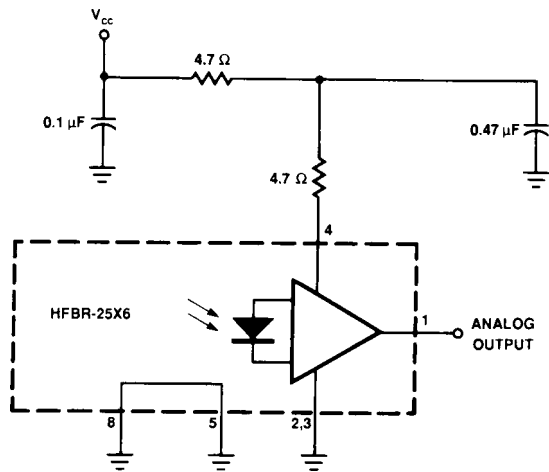

Figure 1. Recommended Power Supply Filter Circuit.
- The signal output is an emitter follower, which does not reject noise in the power supply. The power supply must be filtered as in Figure 1.